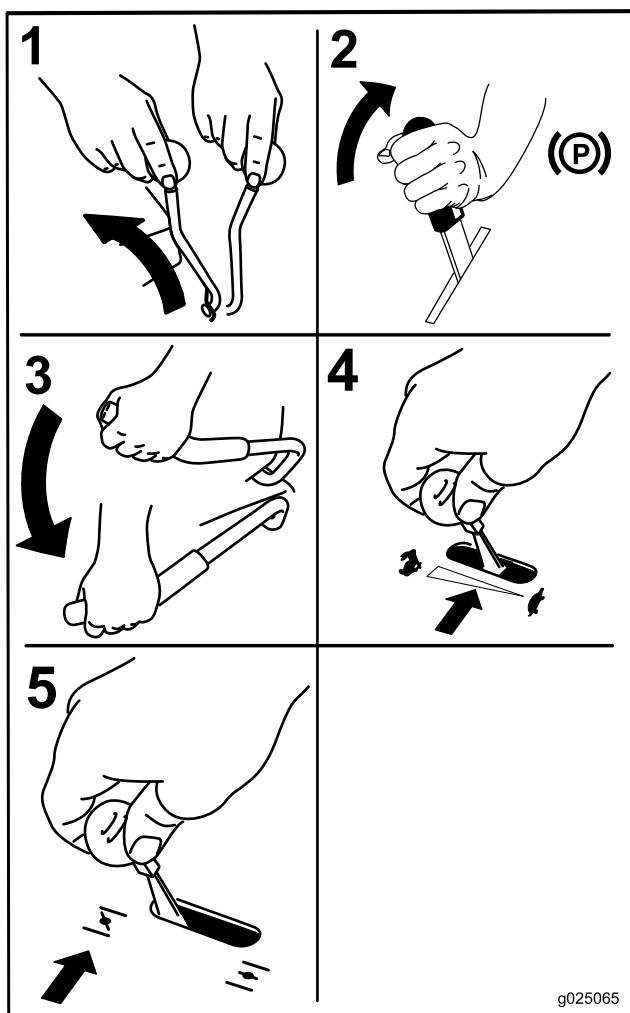

Figure 16
3. Move the PTO engagement lever to the Off position (Figure 16).